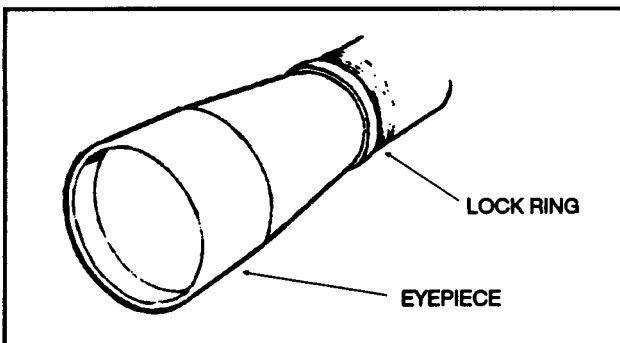

Figure 2-19. Eyepiece adjustment.
(4) ***Eyeiece adjustment.*** The eyepiece (Figure 2-19) is adjusted by turning it in or out of the barrel until the reticle appears crisp and clear. Focusing the eyepiece should be done after mounting the scope. The sniper grasps the eyepiece and backs it away from the lock ring. He does not attempt to loosen the lock ring first; it loosens automatically when he backs away from the eyepiece (no tools needed). The eyepiece is turned several turns to move it at least 1/8 inch. It takes this much change to achieve any measurable effect on the focus. The sniper looks through the scope at the sky or a blank wall and checks to see if the reticle appears sharp and crisp. He locks the lock ring after achieving reticle clarity.